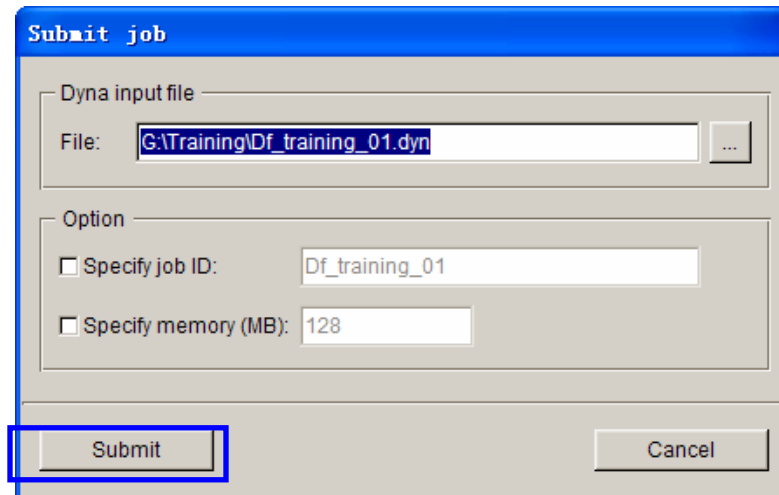

Figure 100: Submit job dialog box
2. The **Submit Job** dialog box illustrated in Figure 100 is displayed.